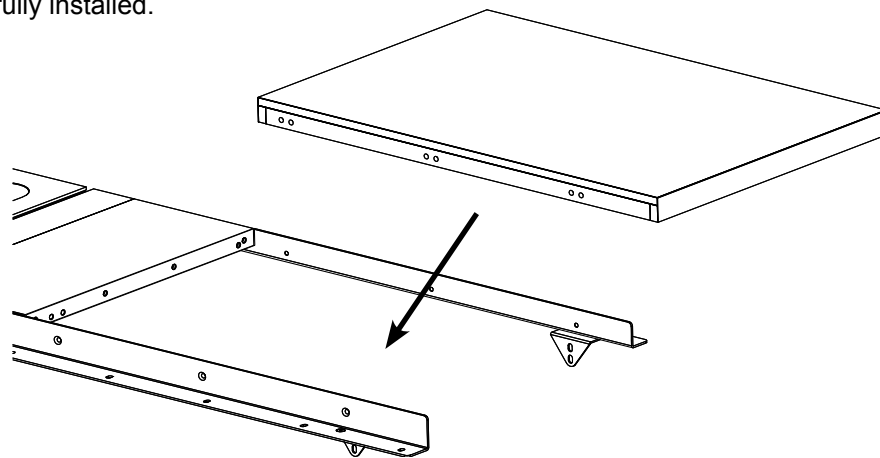

Fig. 9
9. Place the extension table between the rails and slide it towards the extension wing (see Fig. 9). Be careful when positioning the extension table because it is not yet secured to the rails and could fall. You will need to tilt the extension table slightly for the adjustment bracket to fit under the extension wing. The adjustment bracket includes a screw that extends upward and the underside of the extension wing includes a hole to receive the screw. Fit the screw into the hole, and then turn the screw until the extension table is roughly flush with the extension wing. The opposite end of the extension table will rest upon the leg support brackets but will not be level because the leg support brackets are at different elevations and are not intended to support the extension table once it is fully installed.